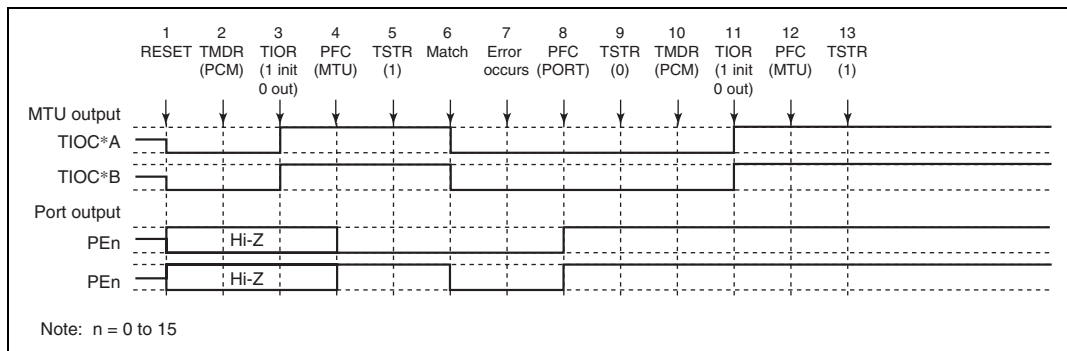

Figure 10.75 Error Occurrence in Phase Counting Mode, Recovery in Phase Counting Mode
(16) Operation when Error Occurs during Phase Counting Mode Operation, and Operation is Restarted in Phase Counting Mode: Figure 10.75 shows an explanatory diagram of the case where an error occurs in phase counting mode and operation is restarted in phase counting mode after re-setting.